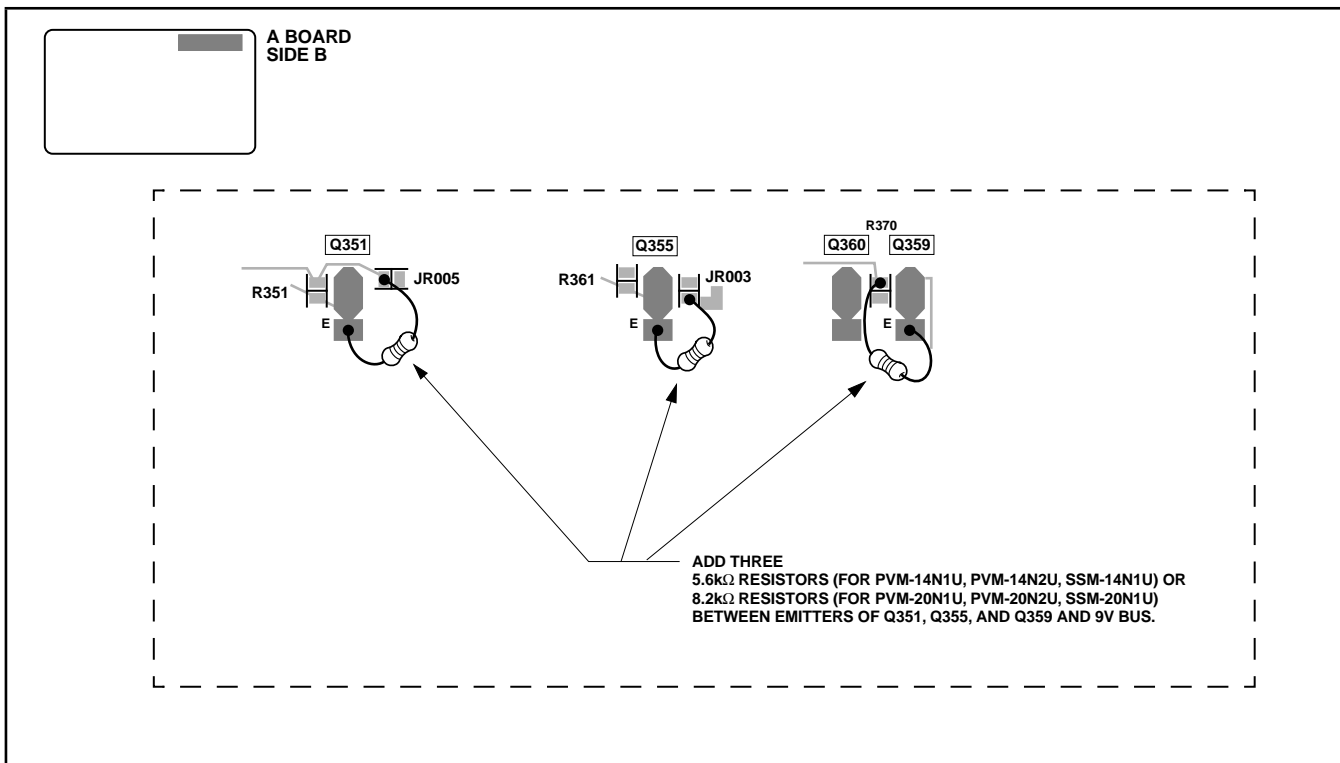

Figure 1
5. Solder three 5.6kΩ resistors (for PVM-14N1U, PVM-14N2U, SSM-14N1U) or 8.2kΩ resistors (for PVM-20N1U, PVM-20N2U, SSM-20N1U) between emitters of Q351, Q355, and Q359 and 9V bus, as shown in Figure 1.